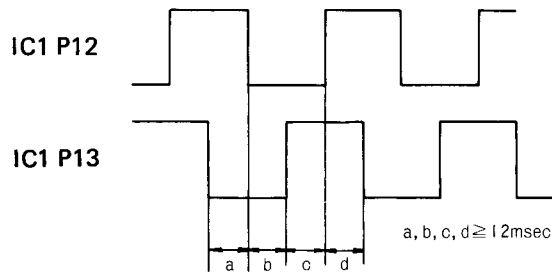

Fig. 9.8 Oscilloscope Waveform
4. Adjust VR201 to obtain the waveform shown in Fig. 9.8, for address A sensor, and adjust VR202 to obtain the same kind of waveform for address B sensor.
6. Check that the P13 waveform is ahead of the P12 as indicated in Fig. 9.8, and that a, b, c, and d in this diagram are all greater than 12msec. The tonearm must always move from the spindle towards the outer edge of the record. If it moves towards the center of the record, the P12 waveform should be ahead of the P13 waveform.